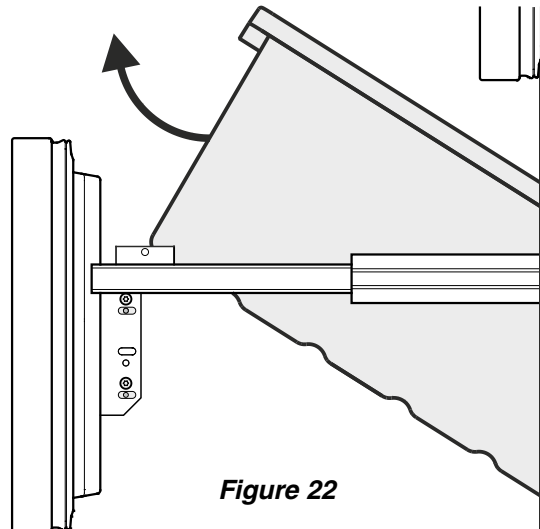

Figure 22
- Tilt the container at an angle and remove - **Figure 22**.